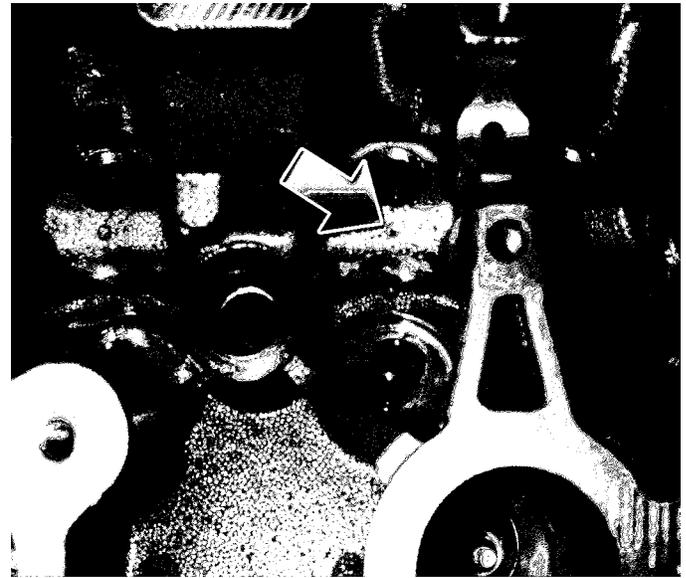

Figure 23
- The exhaust side of the oil rail is drilled for spring/rocker arm oilers (Fig. 23).